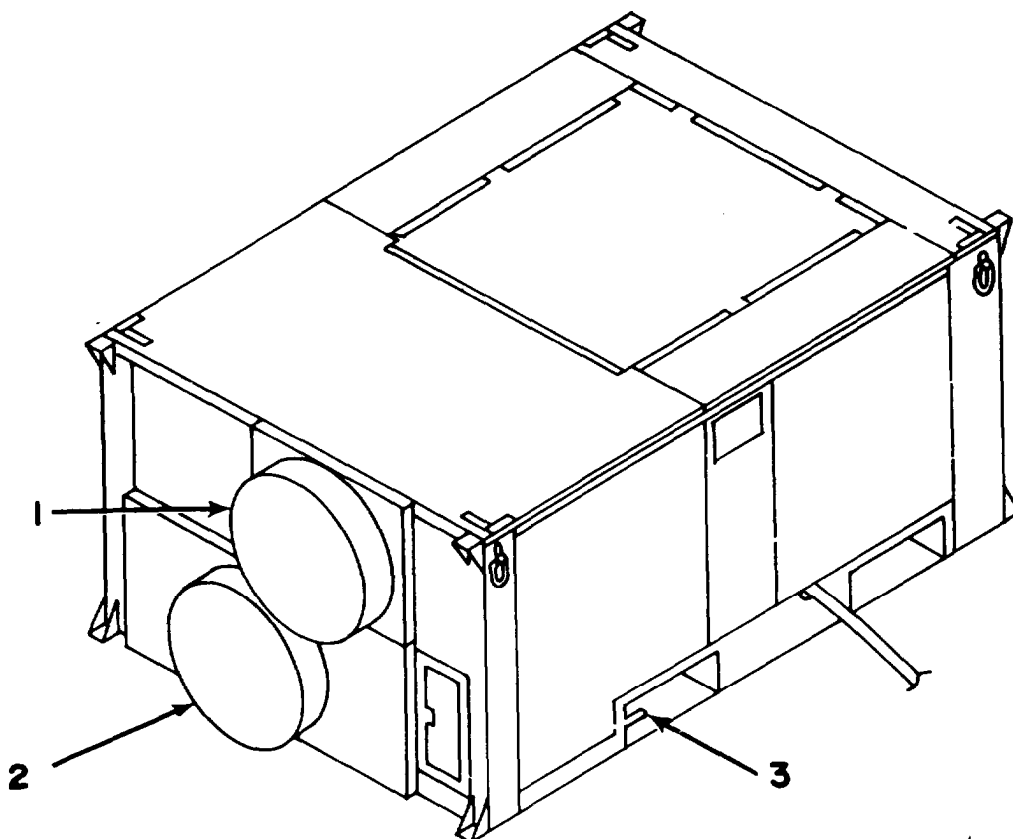

Figure 2-2. Openings and Drains
(2) Check that all air inlet (2) and outlet (1) duct openings are clear (figure 2-2).
(3) Check that drains (3) are either open or piped to a satisfactory location with a proper drain system.